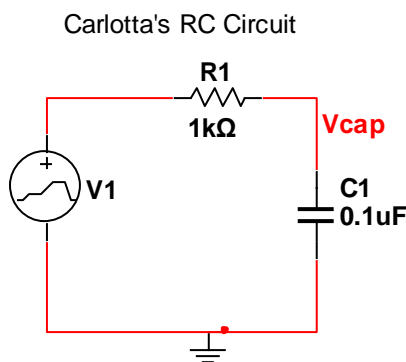

Figure 6: RC circuit with PWL source
- Close the piecewise linear voltage source data table. Double click on the wire above the capacitor and name the node **Vcap** and **check show net name**. Your circuit should now look like Figure 6.